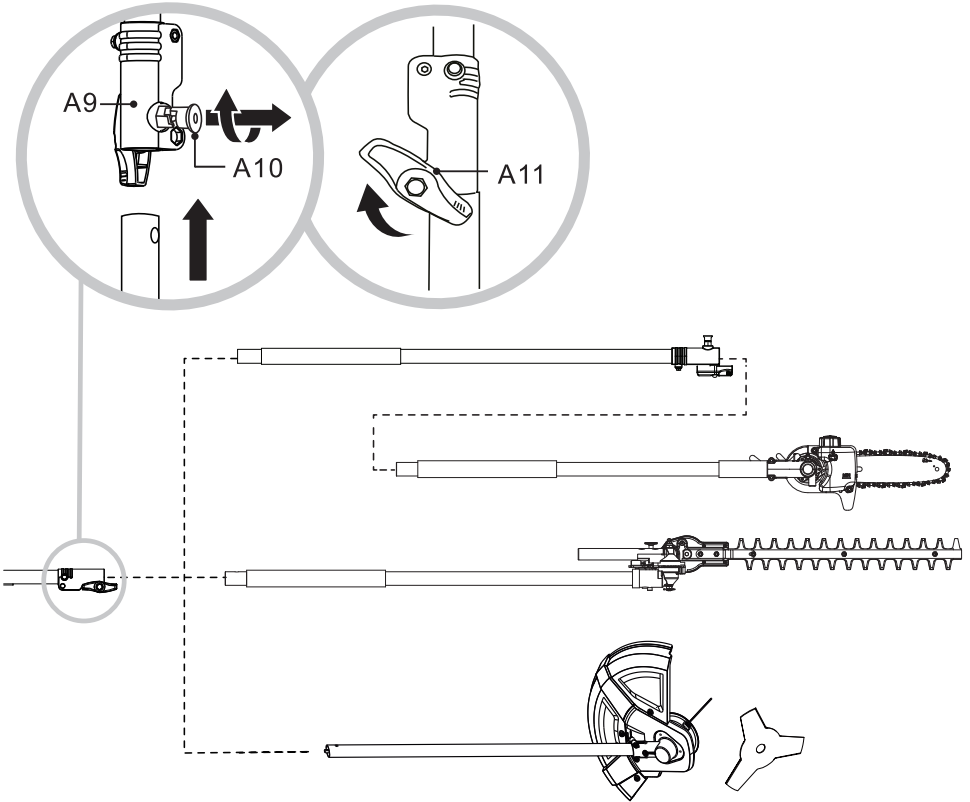

Fig. 2
- b). Pull out and rotate the locking knob (A10) on the shaft clamp (A9) anticlockwise to stop at the bracket. Insert the shaft tube of the attachment into the upper drive shaft tube (Fig. 2).